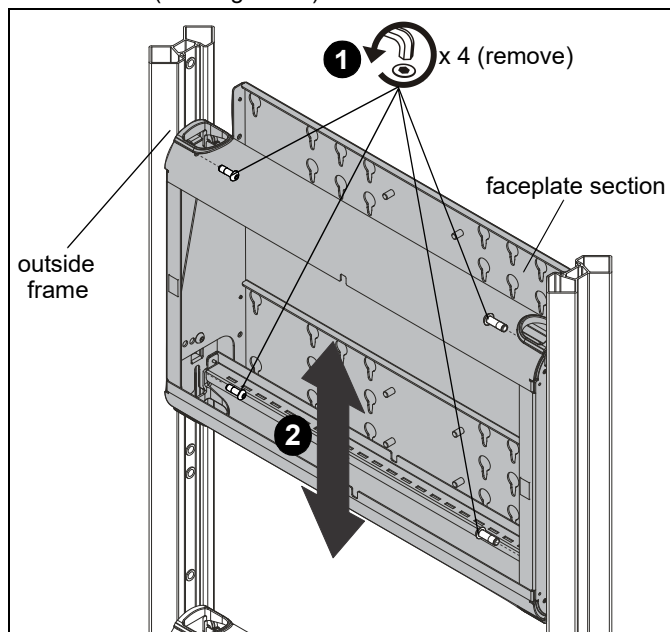

Figure 18
1. Remove four button head screws holding faceplate section of mount to outside frame of cart. (See Figure 18)
2. Adjust faceplate section until desired height position is reached. (See Figure 18)